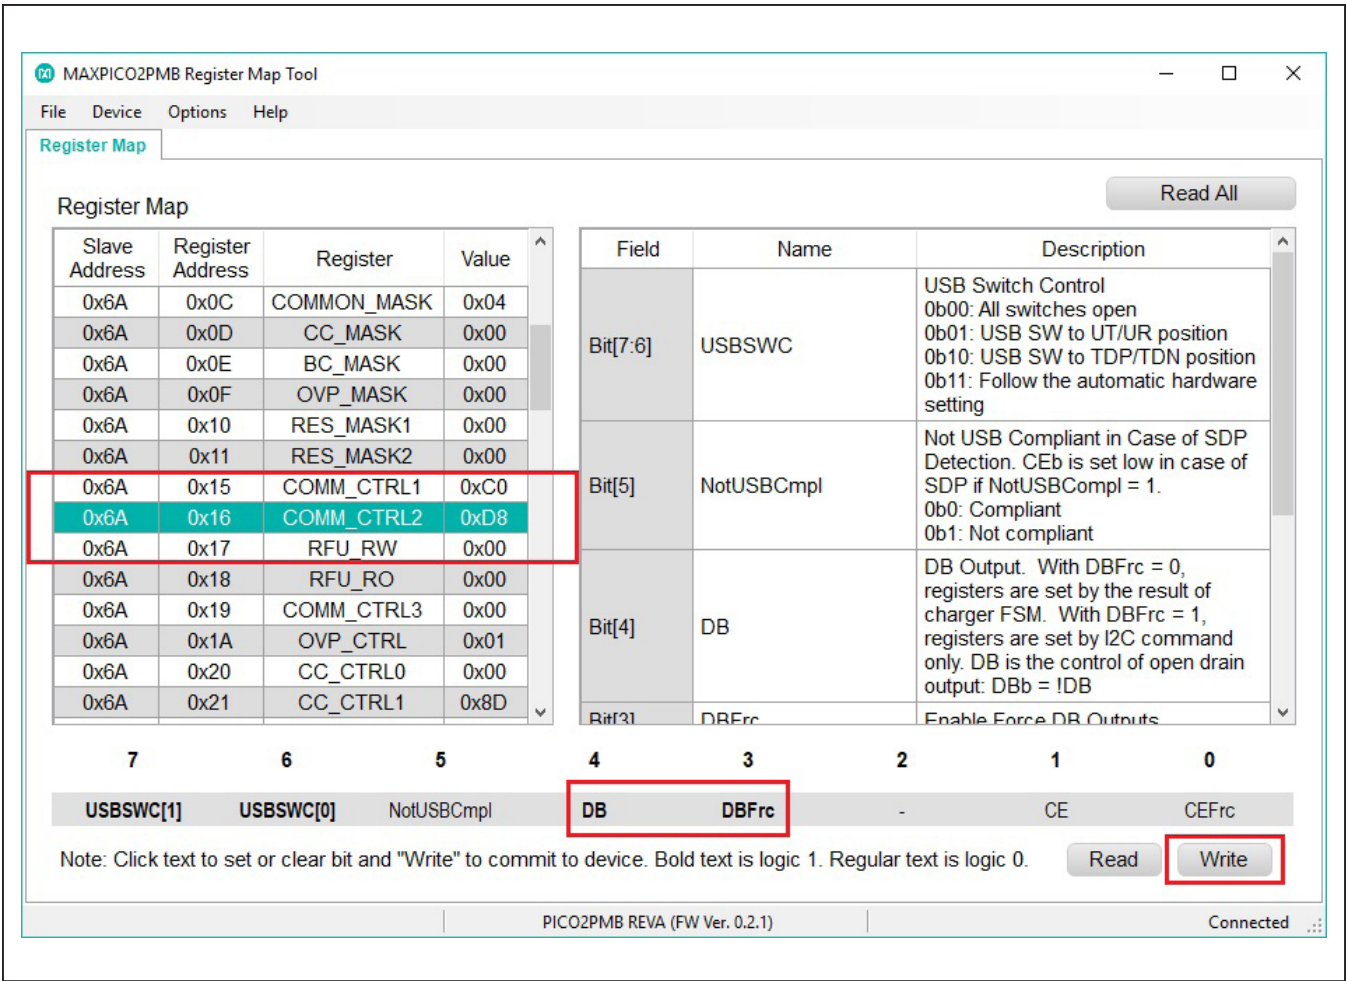

Figure 10. An Example of Setting Bits with the MAX20342 Regmap
- 3) Go to Register Address 0x16 COMM\_CTRL2 and locate bit 3 (Enable Force DB Output). Click on the **DBFrc** bit so it becomes bold and click **Write** to set this bit. Locate bit 4 (DB Output) and set this bit. LED D6 of the MAX20342EVKIT turns red (see Figure 10).